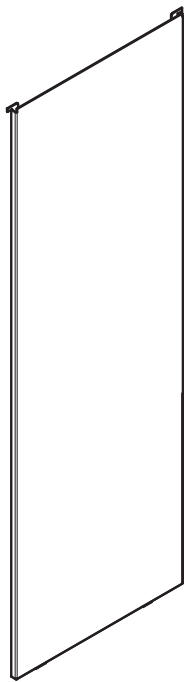
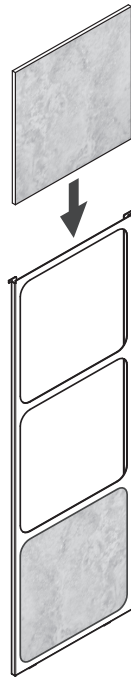

Figure 20.1
Figure 20.2
Your appliance ships with two different side options, one is a solid side panel (**Figure 20.1**) and tile side panel (**Figure 20.2**). There are two of each and no left or right side, these can be changed at anytime.
2. Stack non-combustible material tiles in tile frame as shown in **Figure 20.2.**